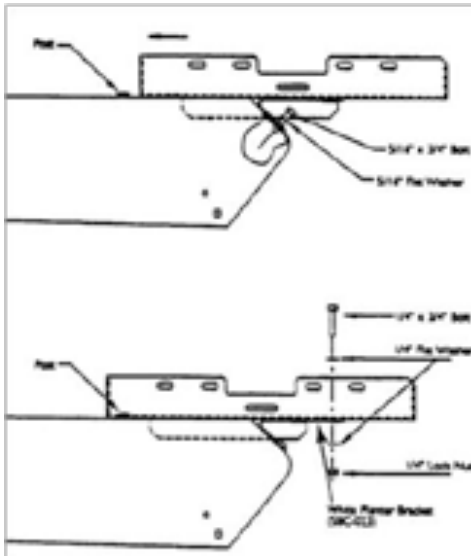

Figure 9
3. Orient SmartBox[®] cradle as shown (see Figure 9).